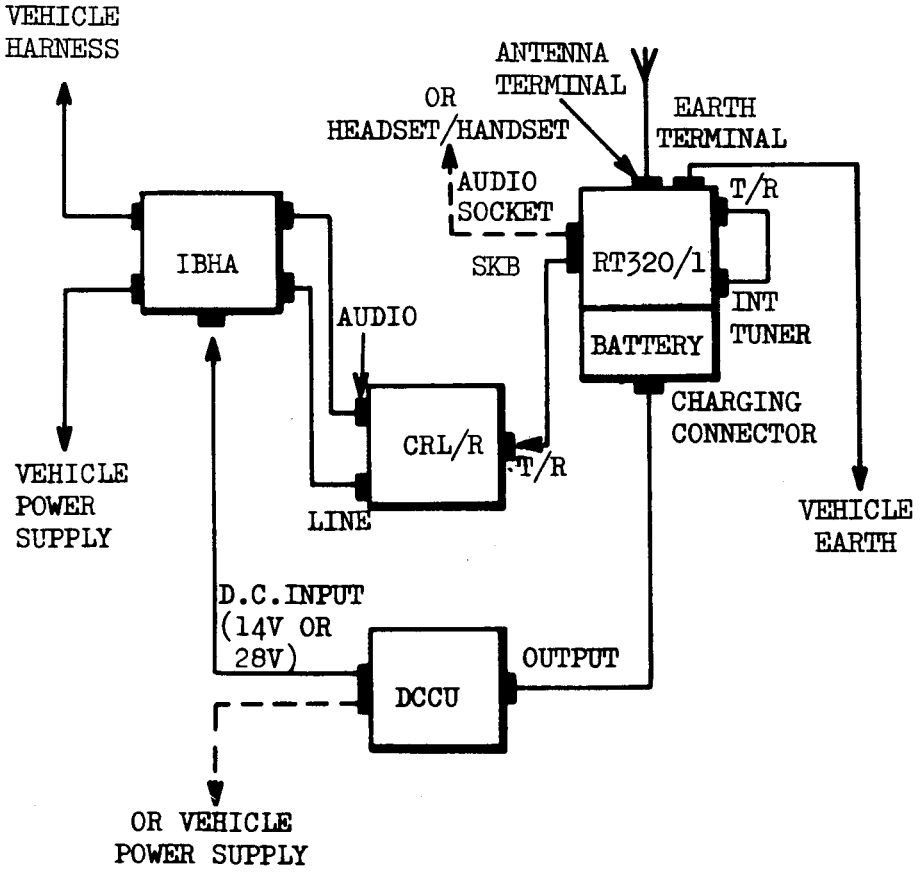

Fig.20 Vehicle Harness Interface
3.1 When used in a vehicle, the RT320/1 is secured by its carrier to a bench or wall-mounted rack and connected via its antenna terminal to the vehicle whip antenna. The equipment can be connected directly to a headset, handset or morse key, as in the manpack role, or into the vehicle harness via a control, radio set, local/remote (CRL/R) and interconnecting box, harness adaptor (IBHA), as shown in block diagram form in Fig.20. If a loudspeaker output is required, the PV2324 amplifier-loudspeaker can be connected to one of the RT320/1 audio sockets. The battery is normally float-charged by either a 14V or 28V input d.c. charging unit (DCCU), depending on the vehicle electrical supply. Under no circumstances is the RT320/1 to be powered directly by the vehicle electrical supply as damage could result from so doing.
3.4 Connect the RT320/1 as required (as in Chapter 2 or in Fig.20 of this Chapter) and tune and operate the equipment as described in Chapter 2.